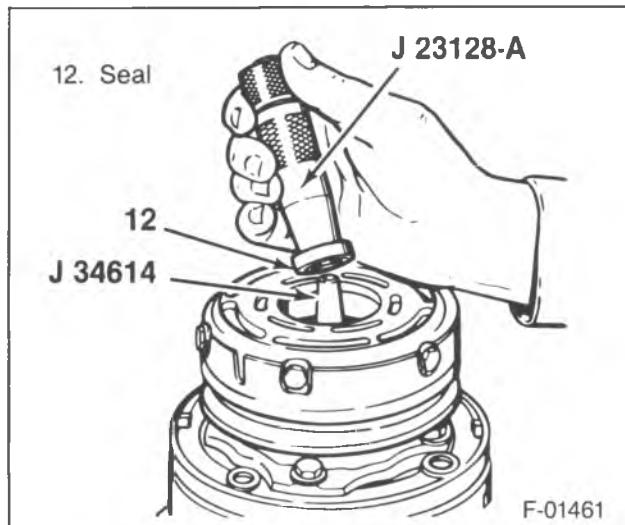

Figure 17—Removing the Shaft Seal with J 23128-A
- 3. Shaft seal (12).
- Engage J 23138-A into the recessed portion of the seal by turning with a hand motion (figure 17).